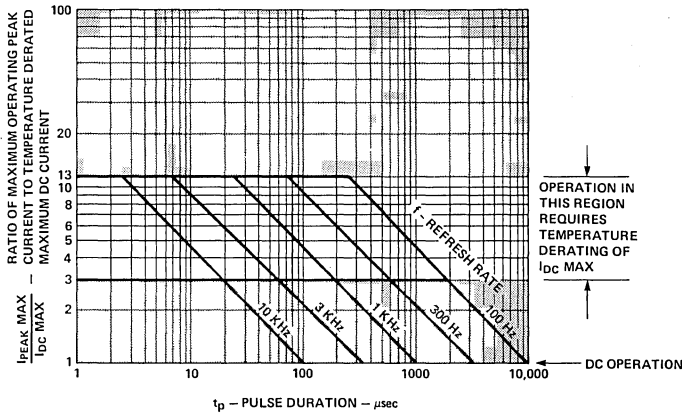

Figure 11. Maximum Allowed Peak Current vs. Pulse Duration
- See appropriate curves to establish pulsed operating conditions (see Figure 1 for -3400 Series, Figure 6 for -3900/-4200 Series, Figure 11 for -8600 Series).